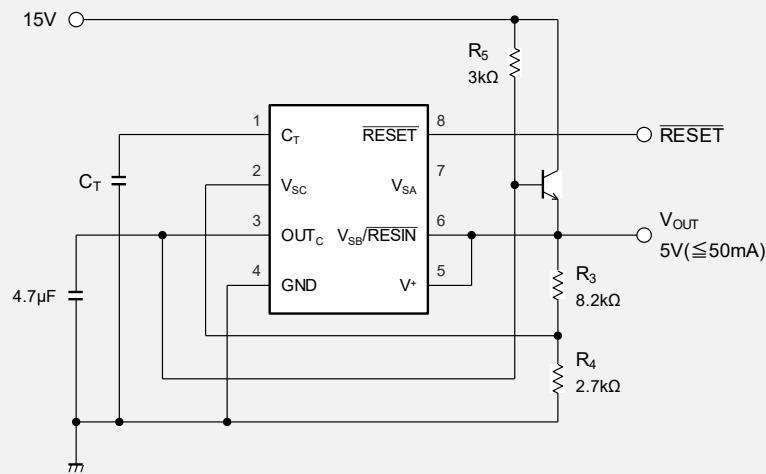

Fig. 12-1 Reference Voltage output and Voltage drop monitoring (e.g. 5V output, 5V monitoring)
- The reference voltage  $V_{OUT}$  is calculated as following formula. In case of resistor value In Fig.12-1, the reference voltage  $V_{OUT}$  is about 5.0V
5V Reference voltage  $V_{OUT}$  is generated by  $V_{SC}(\text{COMP\_C})$  and feedback resistors  $R_2$ ,  $R_3$ , and its 5V is monitored by  $V_{SA}(\text{COMP\_A})$ . Unlike Fig.12-1, 5V output cannot supply large current.